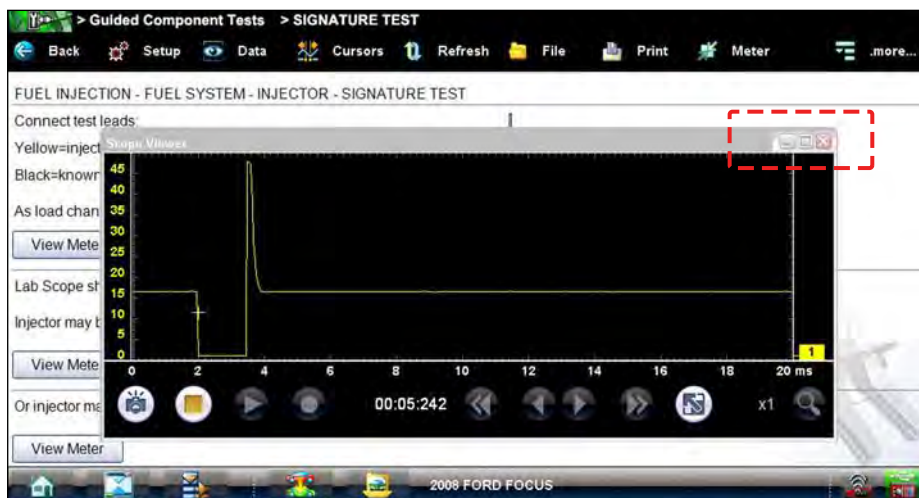

Figure 7-11 Sample meter view in a separate window
2. Select the **Meter** icon a second time and the meter open as a separate window (Figure 7-11). This window can remain open if you switch to the Scanner function and can be accessed from the Windows toolbar at the bottom of the screen. You can also resize and reposition the meter window on the screen.